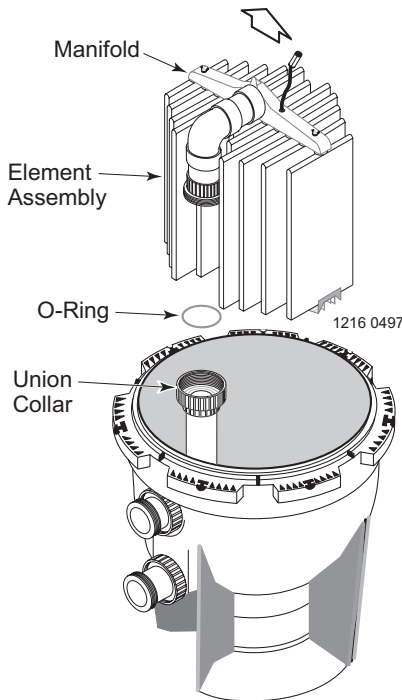

FIGURE 6
4. Grasp element assembly at manifold (Figure 6) and remove it.
8. Inspect O-Ring out of the internal union (see Figure 6) for damage. Reinstall it in the groove in the union half if it is undamaged; if it shows tears or cuts replace it.